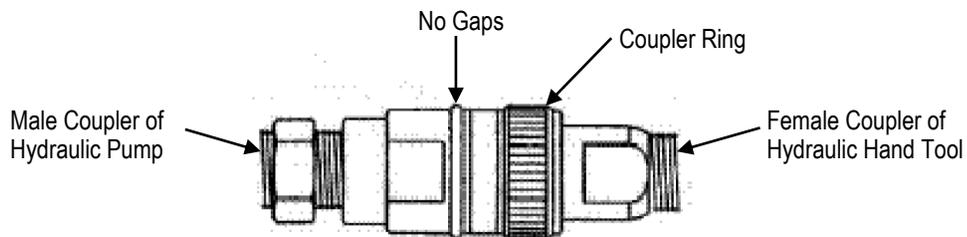

Figure 3
1. Attach the female coupler of the hydraulic tool to the male coupler of the hydraulic pump as shown in Figure 3.